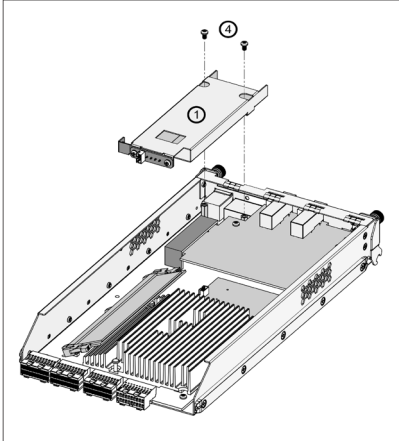

Figure C-6, Sliding the Garage into the Controller Caddy and Securing it
3. Use the two round-head screws and a flat-head screw (reference NO.4 & NO.5 in Figure C-3) that are provided to secure the garage to the controller caddy, as shown in Figure C-6.